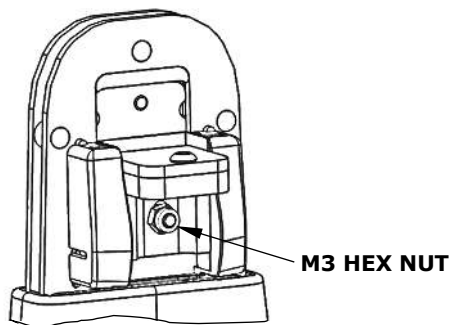

Figure 6
2. Close the tool halfway and remove the M3 hex nut holding the terminal locator. See Figure 6.